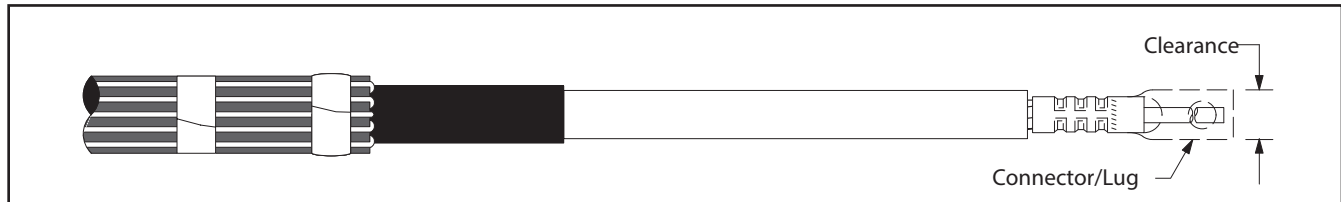

Figure 4
- 3.1 Check to insure 3M Cold Shrink QT-III Silicone Rubber Termination assembly fits over the selected lug or connector BEFORE installing the lug or connector. If lug or connector (Figure 4) will not fit through the termination core, clean the insulation (per Step 4.0) and slide termination on cable before installing Lug or Connector. **DO NOT REMOVE CORE AT THIS TIME.**